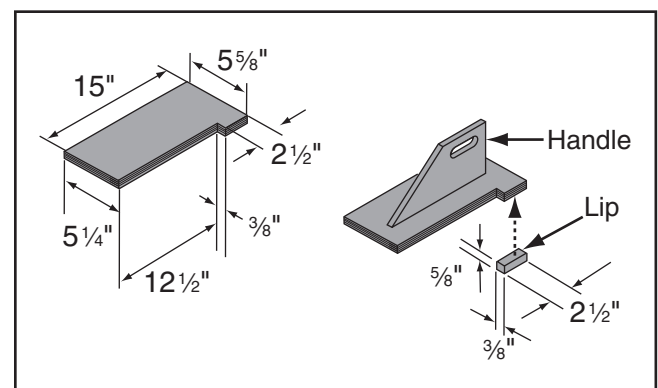

Figure 85. Push block dimensions and construction.
3. Using the $\frac{3}{4}$ " material you used in the previous steps, cut out pieces for the push block per the dimensions shown in **Figure 85**; for the handle, cut a piece 10" long by 5"—9" high and shape it as desired to fit your hand.